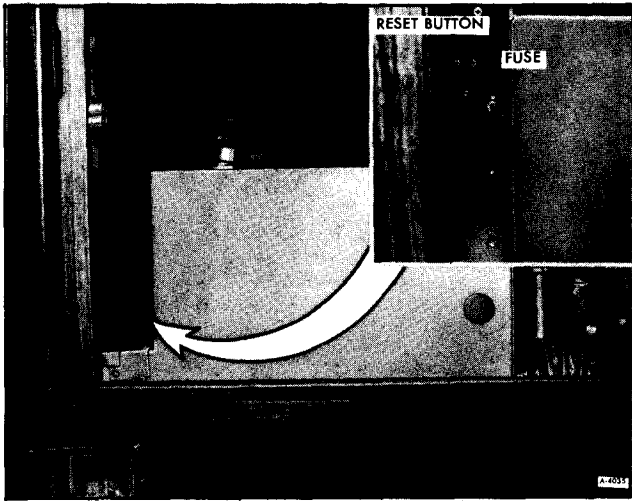

Figure 6—Location of Reset Button and Fuse
4. Press manual reset button on furnace (figure 6).